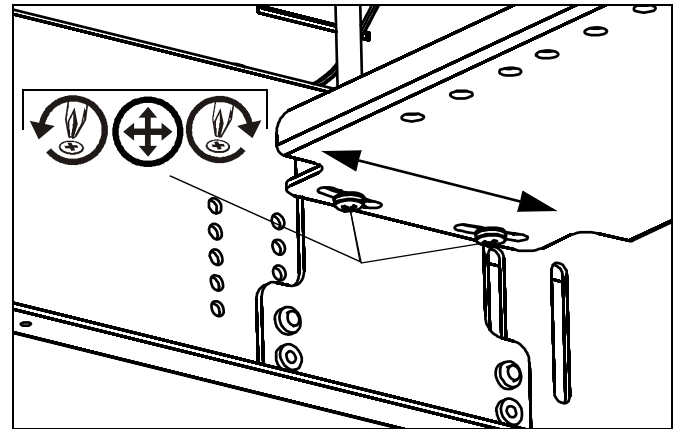

Figure 11
- Adjust one or the other side of the bracket backward or forward by loosening two screws on each side. (See Figure 11)
- Tighten screws. (See Figure 11)